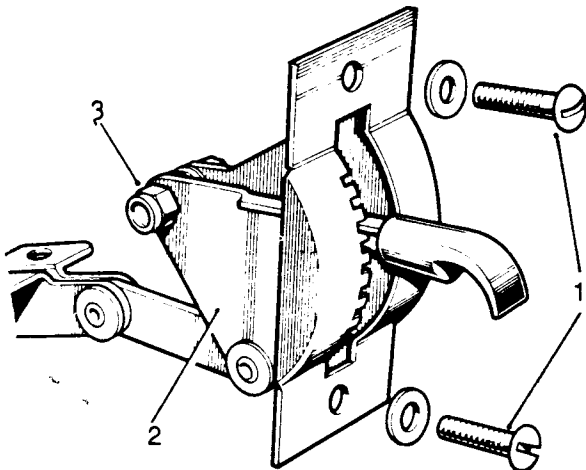

Fig N3.13
- (3) Refer to Fig N3.13. Remove the ventilator to dash fixings (1) and withdraw the ventilator control and quadrant assembly (2).